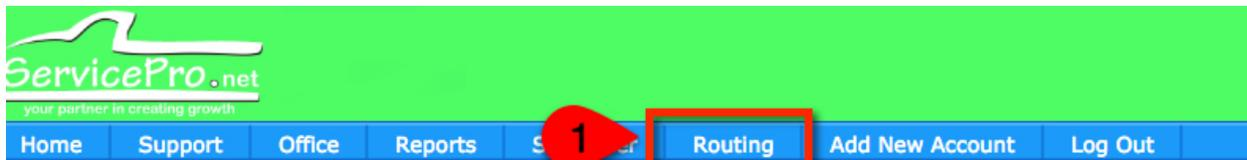

Figure 1.
1. Log into ServicePro and from the top tool bar select Routing (*Fig. 1*)